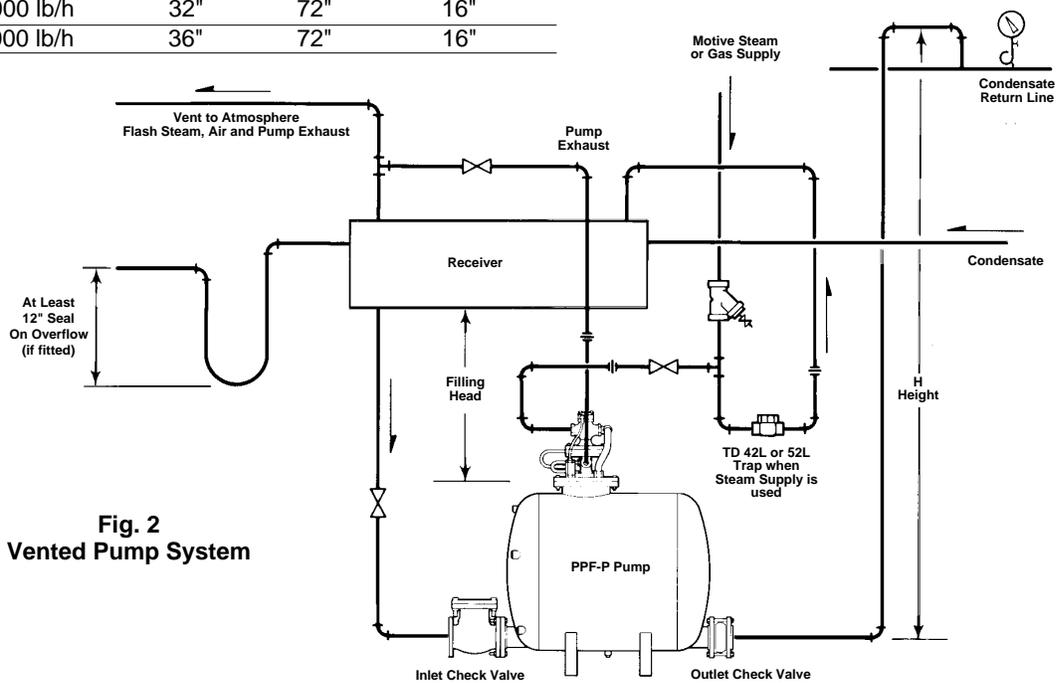

Fig. 2
Installation — Vented Systems (Fig. 2)
1. Install the pump physically below the receiver to be drained. Pump should be installed with the recommended filling head (the vertical distance between the top of the pump body and the bottom of the receiver) as shown in Fig. 2.
2. To collect condensate from multiple sources and prevent equipment flooding during the pump discharge stroke, a vented receiver should be installed in a horizontal plane ahead of the pump as shown in Fig. 2. For proper vented receiver sizing, refer to "Vented Receiver" tables shown below. All inlet line fittings between pump and receiver must be fully ported.
If desired, receiver overflow piping can be installed as shown in Fig. 2 and piped to a suitable drain. The piping must form a loop type water seal at least 12" deep immediately after the receiver.